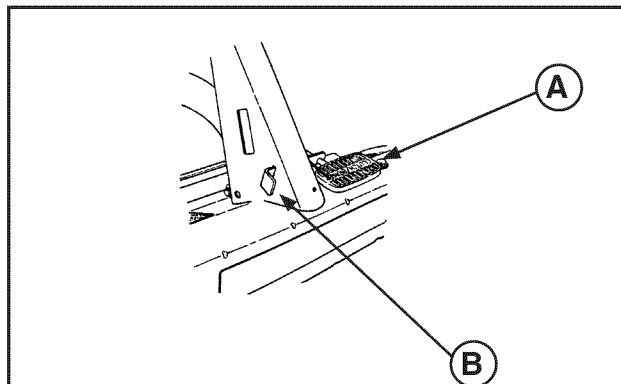

FIGURE 12
2. To release the parking brake, press firmly on the clutch/brake pedal (**B**, Figure 12). The parking brake latch (**A**) will automatically disengage.